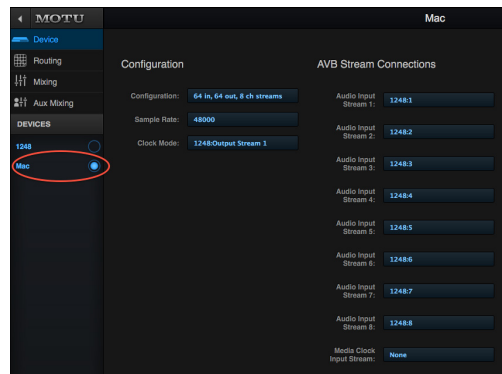

Figure 4-7: Accessing the AVB settings for the Mac in the MOTU web app.
- 3 From the Configuration menu (Figure 4-7), choose the channel mode for the Mac that best fits your workflow.
**4** From the *Sample Rate* menu (Figure 4-7), choose the desired sample rate. Currently, the Mac only supports 48, 96 and 192 kHz sample rates.